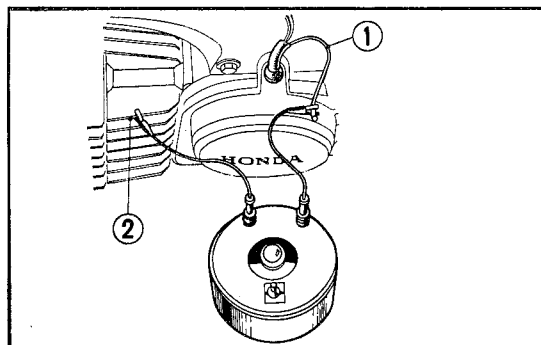

Fig. 4 Ignition timing adjustment
1. Disconnect the primary lead from the breaker point, attach one end of the timing tester lead to the breaker point and the other tester lead to the engine as a ground. (Fig. 4)